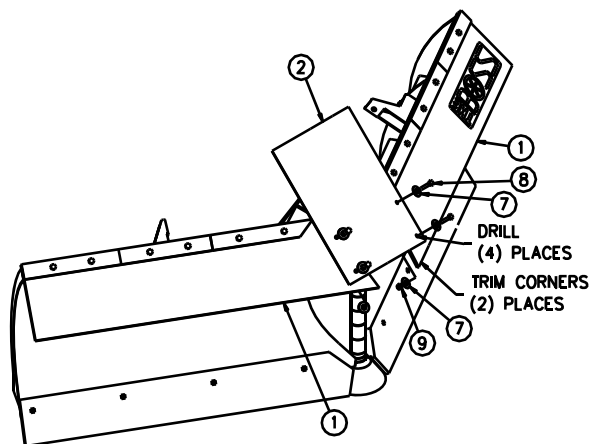

Figure 6. Center Flap Installation G10022
Note: If installing this Snow Deflector on a Plow that does not have pre-punched holes in the Blade Skin it is required that the Blade Skin be drilled. Use Straps (3 & 4) as a reference when drilling the holes. Refer to Figure 6 for the correct Strap (3 & 4) orientation. Space between Straps (3 & 4) will differ depending on type of Plow.
4. Place Straps (3) and Straps w/45° Angle (4) on top of Belting (1). The Straps w/45° Angle (4) must be placed closest to the center of the Plow as shown in Figure 6.
Note: The Plow must be in the V-Position, as shown in Figure 6, for the installation of Center Belting (2).
- Align and clamp Center Belting (2) as follows:
- Center the Center Belting (2) to allow an equal amount of overlap on each half of Belting (1).
- Position Center Belting (2) so that the 16" width is horizontal and the 26-1/2" length is vertical. See Figure 6.
- Position the front corners of Center Belting (2) up approximately 1-1/2" from the front edge of Belting (1).
- With Center Belting (2) clamped in place, drill two 3/8" diameter holes through each side of Center Belting (2) up approximately 1-1/2" from the front edge of Belting (1).
- Attach Center Belting (2) to Belting (1) using four 1/4" Hex Head Bolts (6), eight 5/16" Fender Washers (5), and four 1/4" Nylon Lock Nuts (7).
- Trim the corners of Belting (1) to be flush with the bottom of Center Belting (2). See Figure 6.